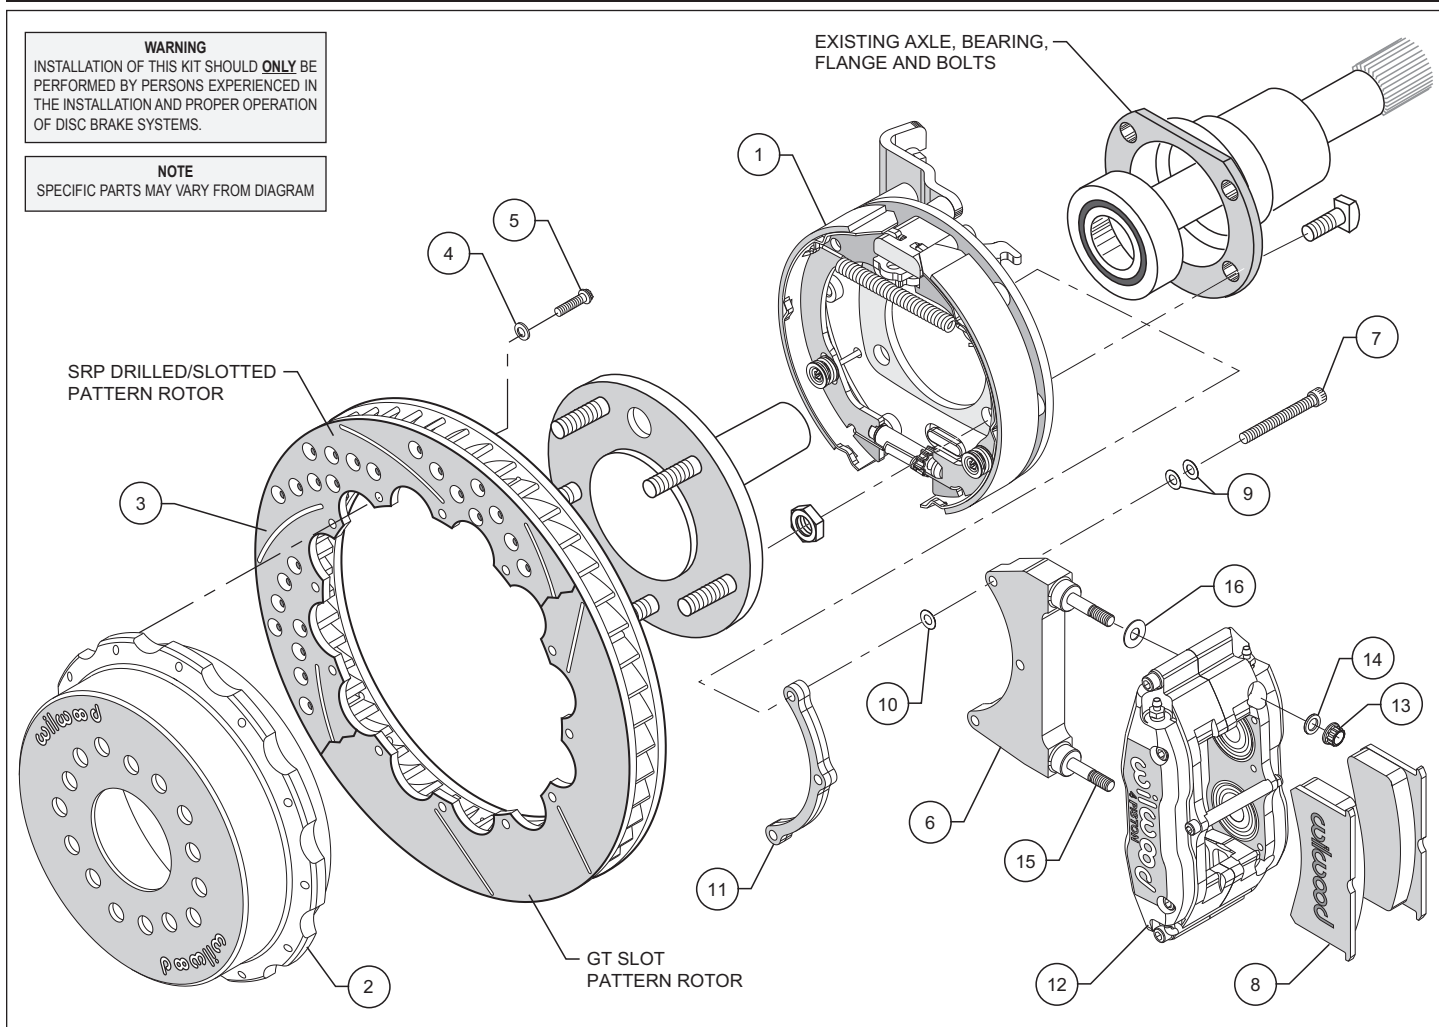

Figure 1. Typical Installation Configuration
• Slide the bracket kit assembly (1) onto the housing flange and then insert the axle assembly through the center hole of the bracket kit assembly (1). Secure using the stock Original Equipment Manufacturer (OEM) bolts and nuts. Stock OEM hex nuts that retain the bracket kit assembly (1) should be on the wheel side of the bracket. Apply red *Loctite*® 271 to the stock OEM bolt threads and torque to OEM specifications. Make sure the bracket kit assembly (1) brake pads are FACING OUTWARD TOWARDS THE WHEEL.
• With the larger I.D. side of the rotor (3) facing away from the hat (2), bolt rotor (3) to hat (2) through the backside of the rotor using washers (4) and bolts (5). Torque bolts (5) in an alternating sequence to 103 in-lb. Safety wire bolts (5) using standard 0.032 inch diameter stainless steel safety wire as shown in Please refer to Wilwood's data sheet DS-386 (available at www.wilwood.com/Pdf/DataSheets/ds386.pdf) for complete safety wire installation instructions.
• Align the correct hole pattern in the hat (2) with the stud pattern on the axle flange. **NOTE:** Some OEM and aftermarket axles come with stud sizes larger than 0.50" diameter. Verify stud size and have a qualified machine shop drill the hats to the correct size, if necessary. Slide the hat/rotor assembly (2 and 3) over the wheel studs covering the bracket kit assembly (1) and against the axle flange face. Check to be sure the hat seats squarely against the hub. Install a couple of lug nuts (finger tighten) to keep the rotor/hat assembly in place while continuing with the installation.
• **NOTE:** Please reference the caution statement at the beginning of the assembly instructions. The caliper mounting bracket assembly (6) should be installed first with clean, dry threads on the mounting bolts (7). Install the bracket from the rear side of the bracket kit assembly (1) by sliding bolt (7) through two flat washers (9), bracket (6), shim washer (10) and finally through the spacer (11), see Figure 1. **NOTE:** End of bolt should not exceed inside face of insert. The bracket must tighten squarely against the back side of the bracket kit assembly (1). Inspect for interference from casting irregularities, machining ridges, burrs, etc. Use one thin shim (10) between the bracket (6) and spacer (11) during initial trial fitting.
• Install one shim (16) over each pre-installed stud (15) on the radial mount bracket (6). Slide the caliper (12) in place over the studs and rotor, then install the washer (14) and lock nut (13) to hold the caliper in place. The caliper bleed screws should be pointing up. Snug the lock nuts (13) and check that the rotor (3) is centered in the caliper (12). Add or subtract .015" shims (10) as necessary between the caliper mounting bracket (6) and the spacer (11) to center the caliper (12).